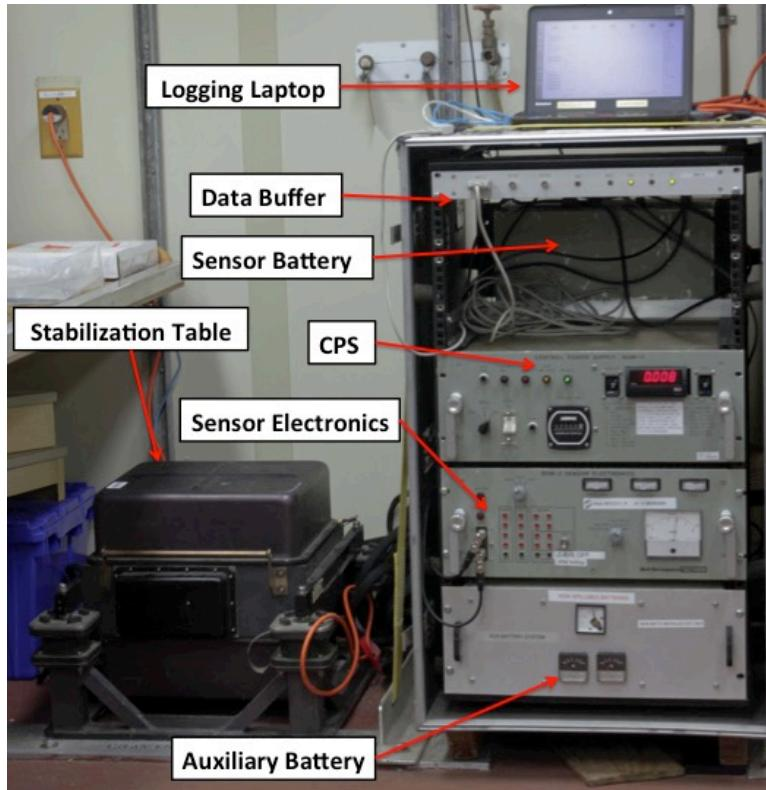

Figure 1. Typical shipboard installation of BGM-3 Gravimeter
- Figure 1. Typical shipboard installation of BGM-3 Gravimeter
When in its normal functional operations mode, the BGM-3 gravimeter includes components noted in Figure 1. The first place to look for a quick health check is the analog meter on the front panel of the Sensor Electronics case. There you can check the sensor voltage (ELEX V) which should read ~29 Volts. Another quick health check is the green **Operate** LED in the middle of the Control Power Supply (CPS) panel, and the DNV lights on the data buffer, the CPS, and the laptop GravGui are either not illuminated (LEDs) or are showing green (GUI).